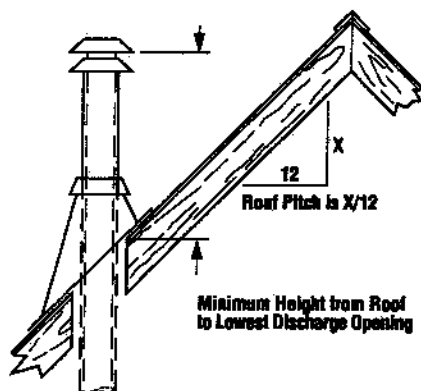

Figure 10
**Gas Vent Rule** – Gas vent caps that are located 8' or more from a portion of a building which extends at an angle greater than 45° upward from the horizontal may terminate in accordance with Table 1 (Figure 10), provided that in no case shall any discharge opening on the cap be less than 2' (610 mm) horizontally from the roof surface.